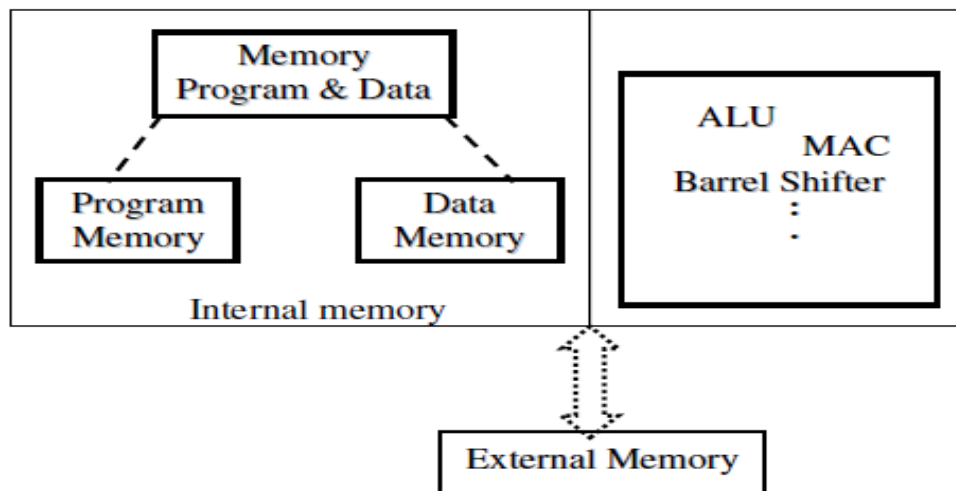

Fig. 7.2: Internal memory and interfacing of external memory
- If the memory available on a DSP is not sufficient for an application, it can be interfaced to an external memory as depicted in fig. 7.2.